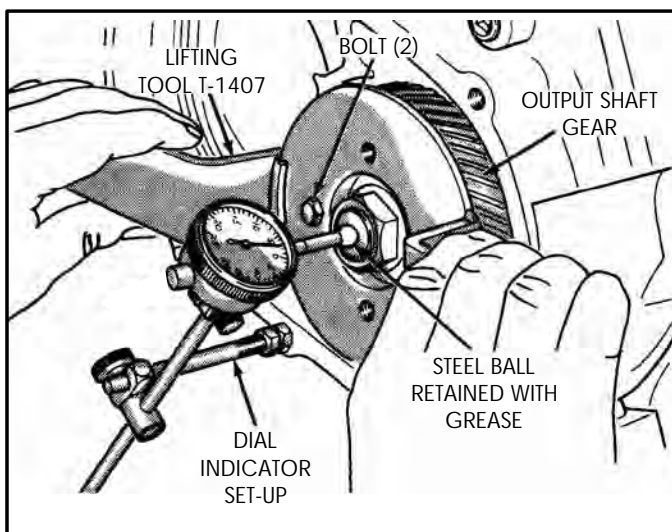

Figure 178
5. Install lifting tool, steel ball retained with a small amount of grease and dial indicator, as shown in Figure 178.